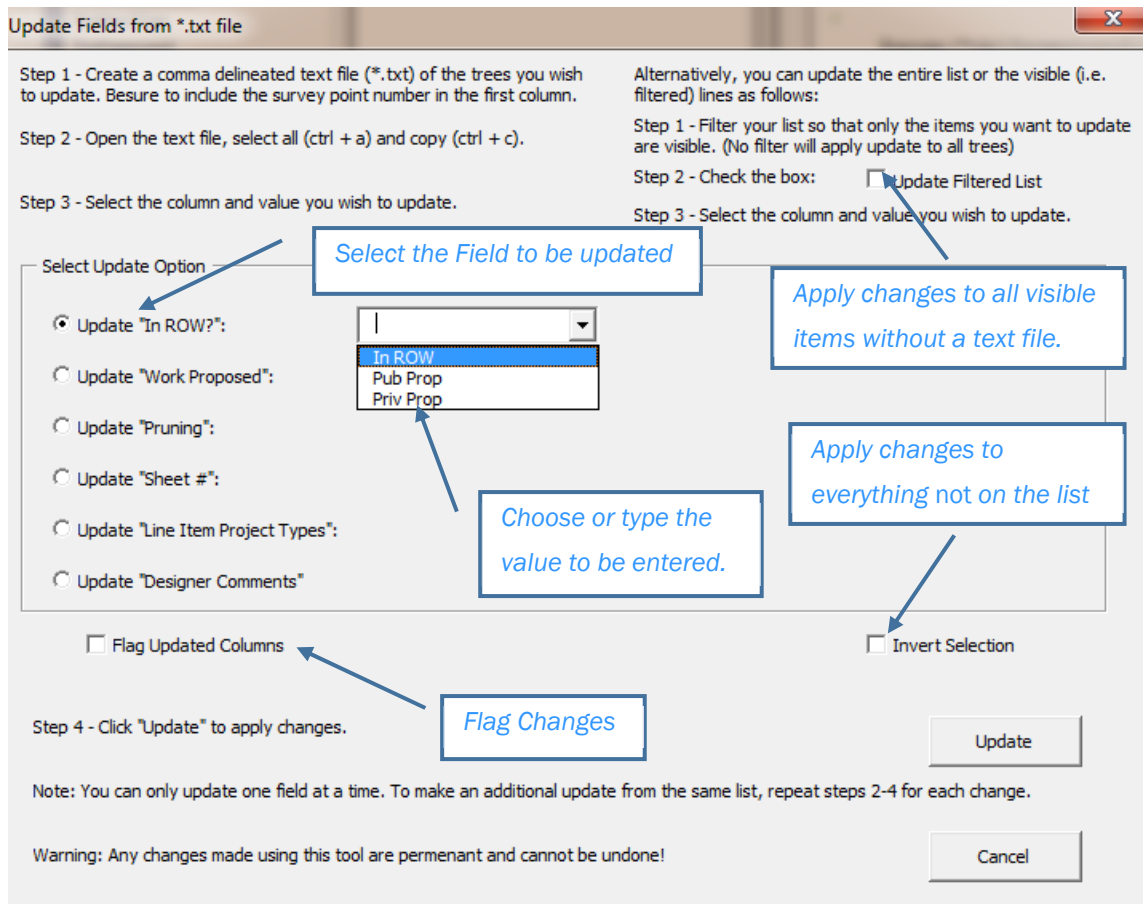

Figure 14
4. This will open a dialogue box (see Figure 14) that will allow you to select the change you would like to make to the trees identified on your list.